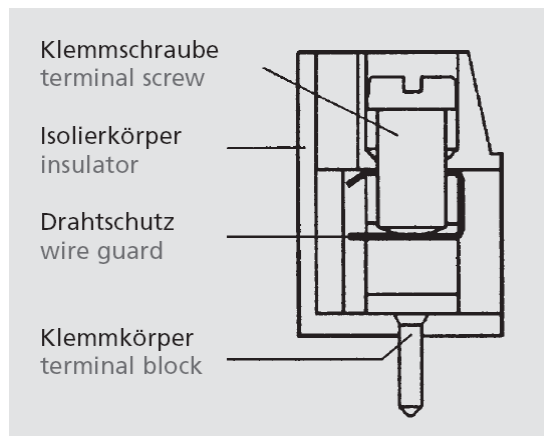

Figure 6: RCM 250 terminal block
- 4.) Connect wires per EXAMPLE CIRCUIT as shown in figure 6. The both N clamps are coupled internally. Use an insulated electrician screw driver with suited tip size.